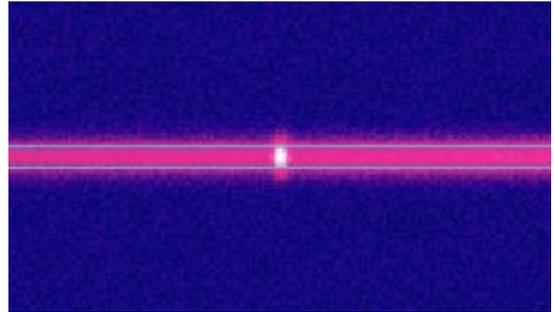

Fig. 10-17. Band width defined
- c. In the **Width** input field on the Toolbar, define width of the desired band so that it covers the major portion of the image (Fig. 10-17).
4. If your instrument is equipped with several detectors to detect the signal, select the CCD camera Andor in the **Select for scan** list (Fig. 10-17), at the right top of the **Spectra** window.